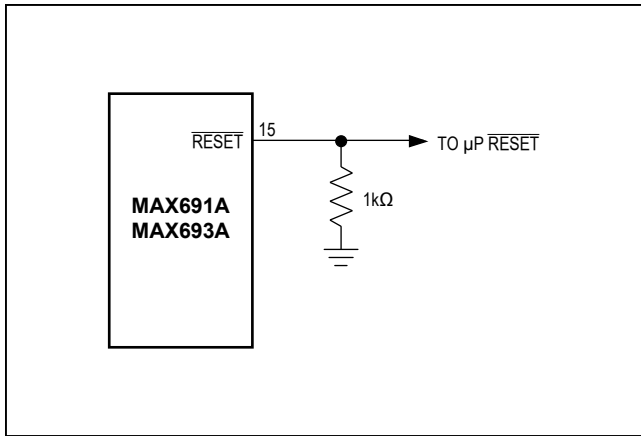

Figure 1. Adding an external pull-down resistor ensures  $\overline{\text{RESET}}$  is valid with  $V_{CC}$  down to GND.
sinks 3.2mA with a saturation voltage of 0.1V. When no backup battery is used,  $\overline{\text{RESET}}$  output is guaranteed to be valid down to VCC = 1V, and an external 10kΩ pulldown resistor on  $\overline{\text{RESET}}$  insures that it will be valid with VCC down to GND (Figure 1). As VCC goes below 1V, the gate drive to the  $\overline{\text{RESET}}$  output switch reduces accordingly, increasing the RDS(ON) and the saturation voltage. The 10kΩ pulldown resistor insures the parallel combination of switch plus resistor is around 10kΩ and the output saturation voltage is below 0.4V while sinking 40µA. When using a 10kΩ external pulldown resistor, the high state for  $\overline{\text{RESET}}$  output with VCC = 4.75V will be 4.5V typical.